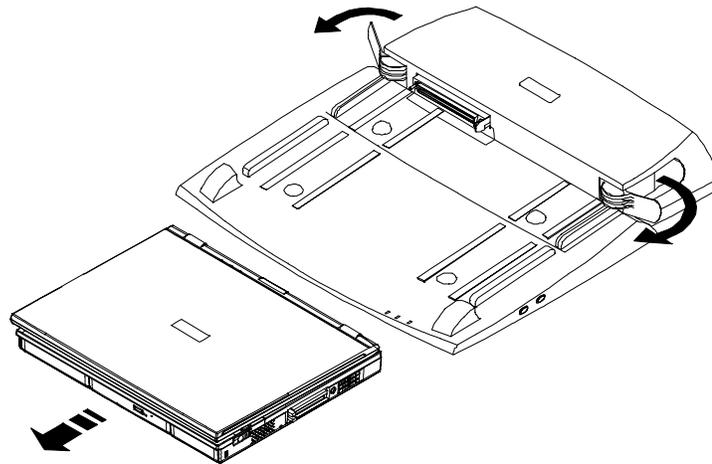

Figure 6-12: Removing the Notebook from the I/O Replicator
2. Pull both release levers in the direction of the arrows as illustrated in *Figure 6-12*.